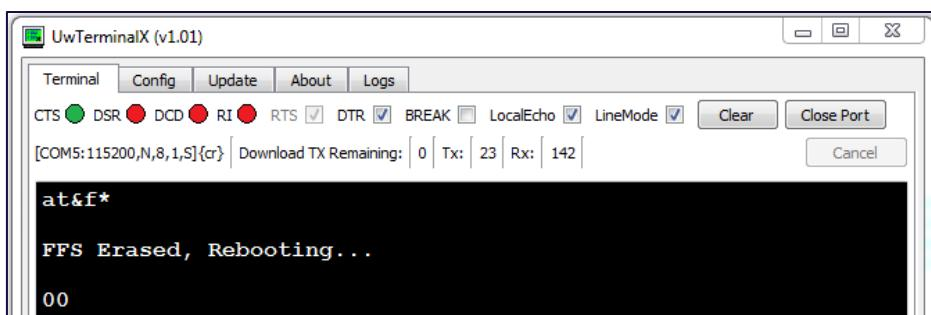

Figure 3: Return the BL652 to factory defaults
5. Use UwTerminalX to return the BL652 to factory defaults using the command **at&f*** as shown in Figure 3. If you are using a new development board with the sample application, you may need to remove the autorun jumper on J12 and press the reset button to exit out of the sample application; then issue the **at&f*** command to erase the file system and all non-volatile data.